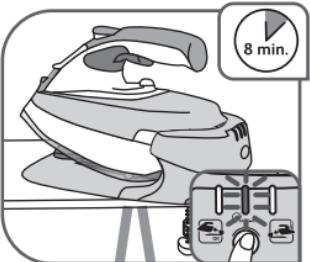

Fig.16*
- Flashing orange light (according to model): Auto-Off function activated (see the section "Auto-Off safety") – fig.16.
- To restart the iron, simply press the RESTART button on the display panel – fig.16.